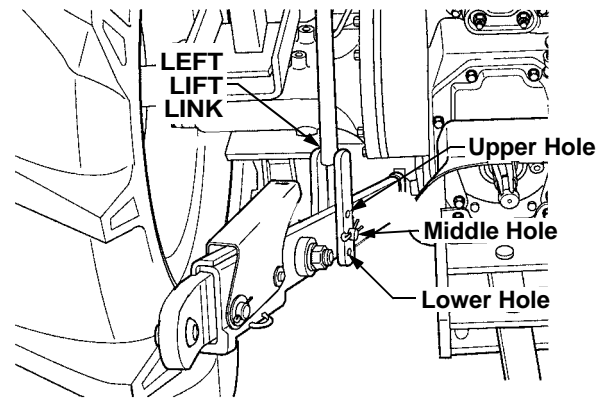

Figure 35
- Following the information provided in the implement owner's manual, attach the left lift rod to the lower link using one of the three holes provided in the lift rod. Remove the internal cotter pin and clevis pin to adjust the left lift rod. See Figure 35.